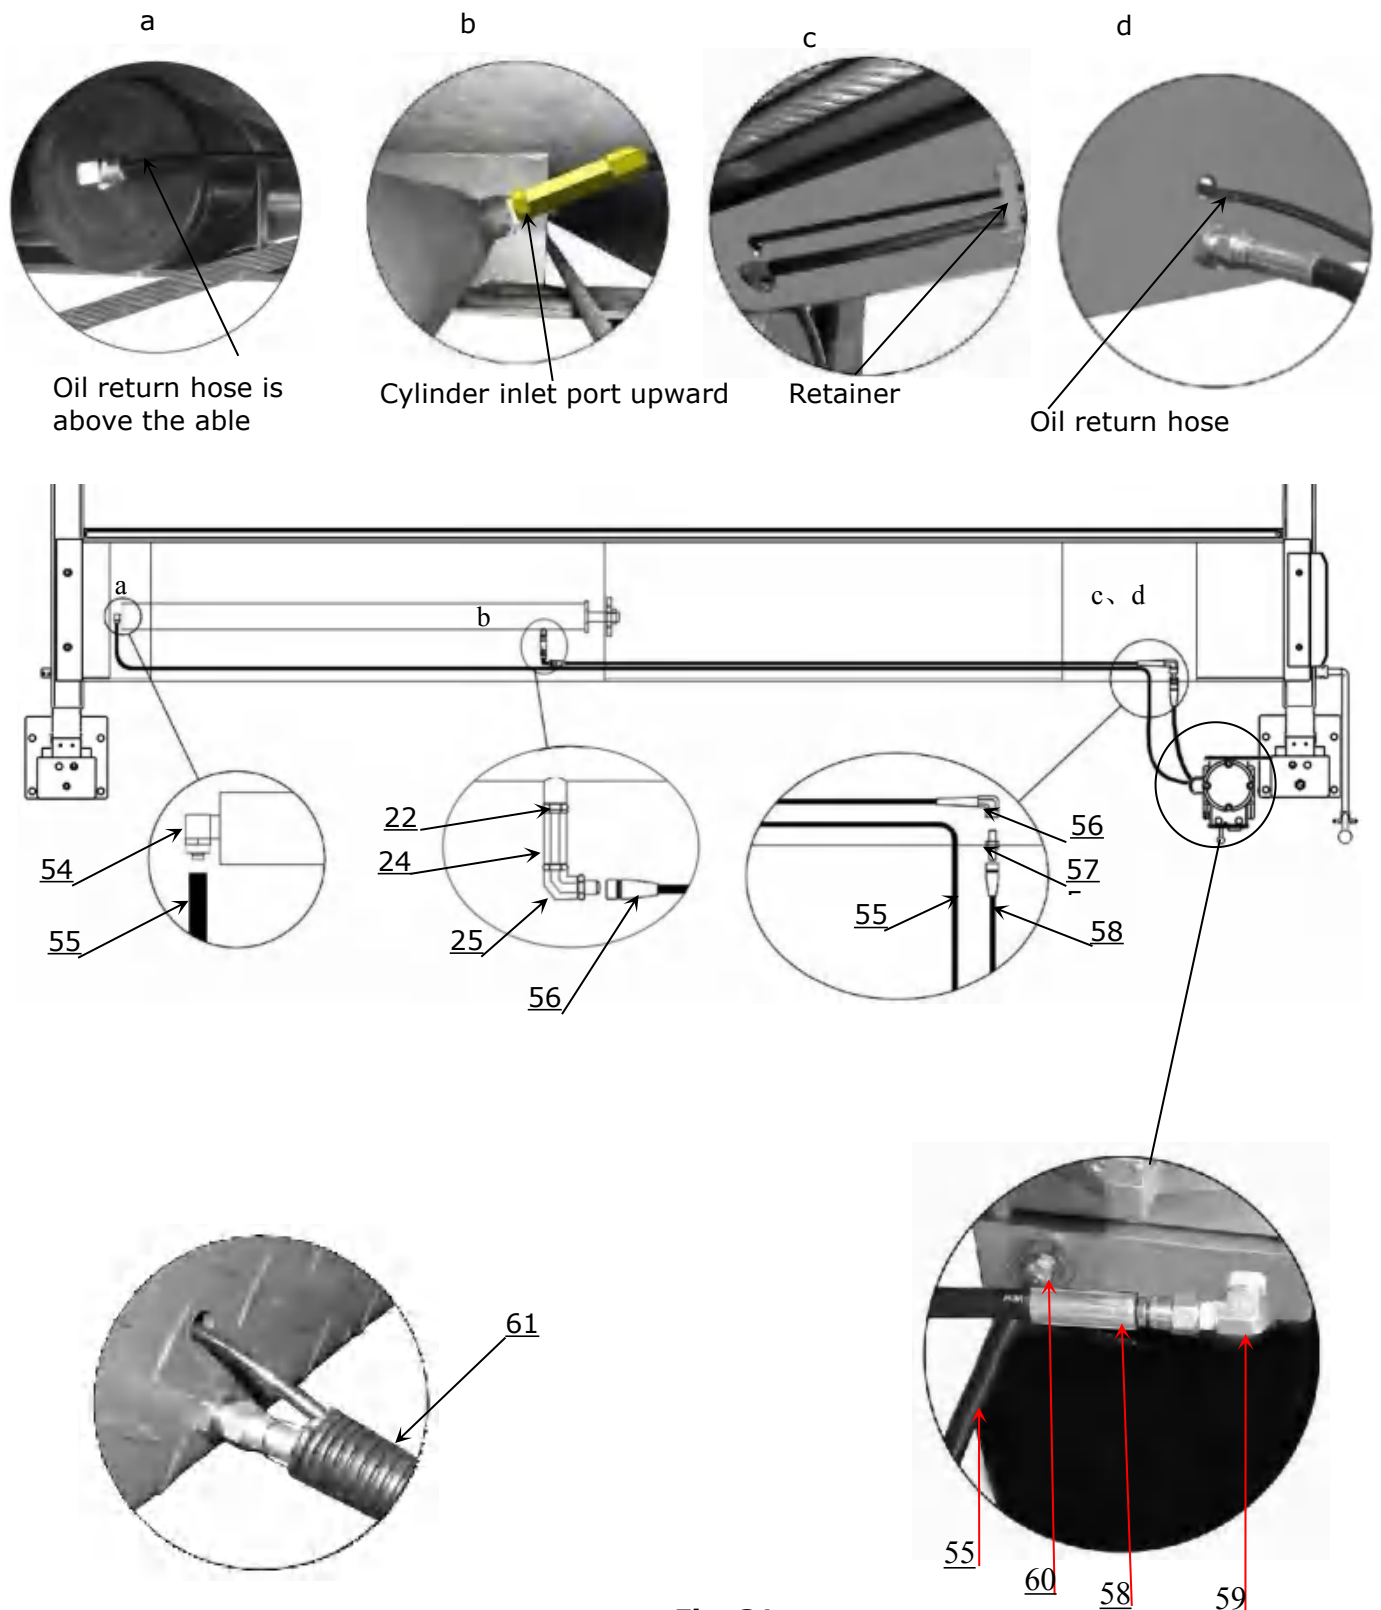

Fig. 31
1. For power unit installed to the column that connected to cross beam A (See Fig. 31)